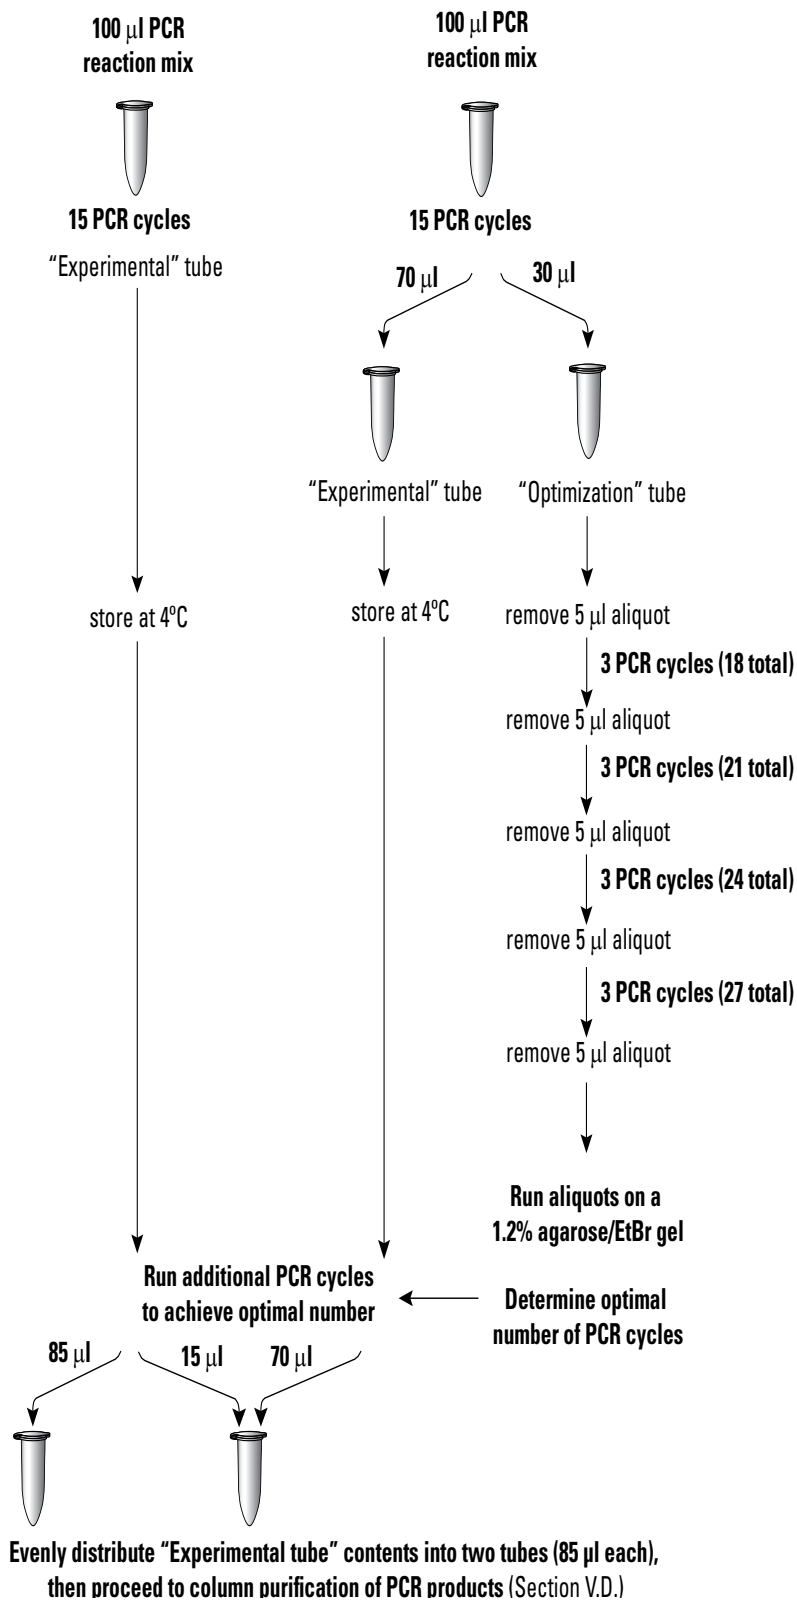

Figure 3. Optimizing PCR parameters for SMARTer cDNA synthesis.
7. Subject each reaction tube to 15 cycles, then pause the program. Transfer 30  $\mu$ l from each tube to a second reaction tube labeled "Optimization". Store the "Experimental" tubes at 4°C. Using the "Optimization" PCR tube, determine the optimal number of PCR cycles (see Figure 3):
12. Evenly distribute the contents of the Experimental PCR tubes into two tubes (85  $\mu$ l each; see Figure 3), then proceed to Section V.D. Column Purification of PCR Products using NucleoSpin Extract II.
For the best results, you must optimize the PCR cycling parameters for your experiment, as described in Section V.C. (Figure 3). Choosing the optimal number of PCR cycles ensures that the ds cDNA will remain in the exponential phase of amplification. When the yield of PCR products stops increasing with more cycles, the reaction has reached its plateau. Overcycled cDNA can result in a less representative probe. Undercycling, on the other hand, results in a lower yield of cDNA. The optimal number of cycles for your experiment is one cycle fewer than is needed to reach the plateau. Be conservative: when in doubt, it is better to use fewer cycles than too many.